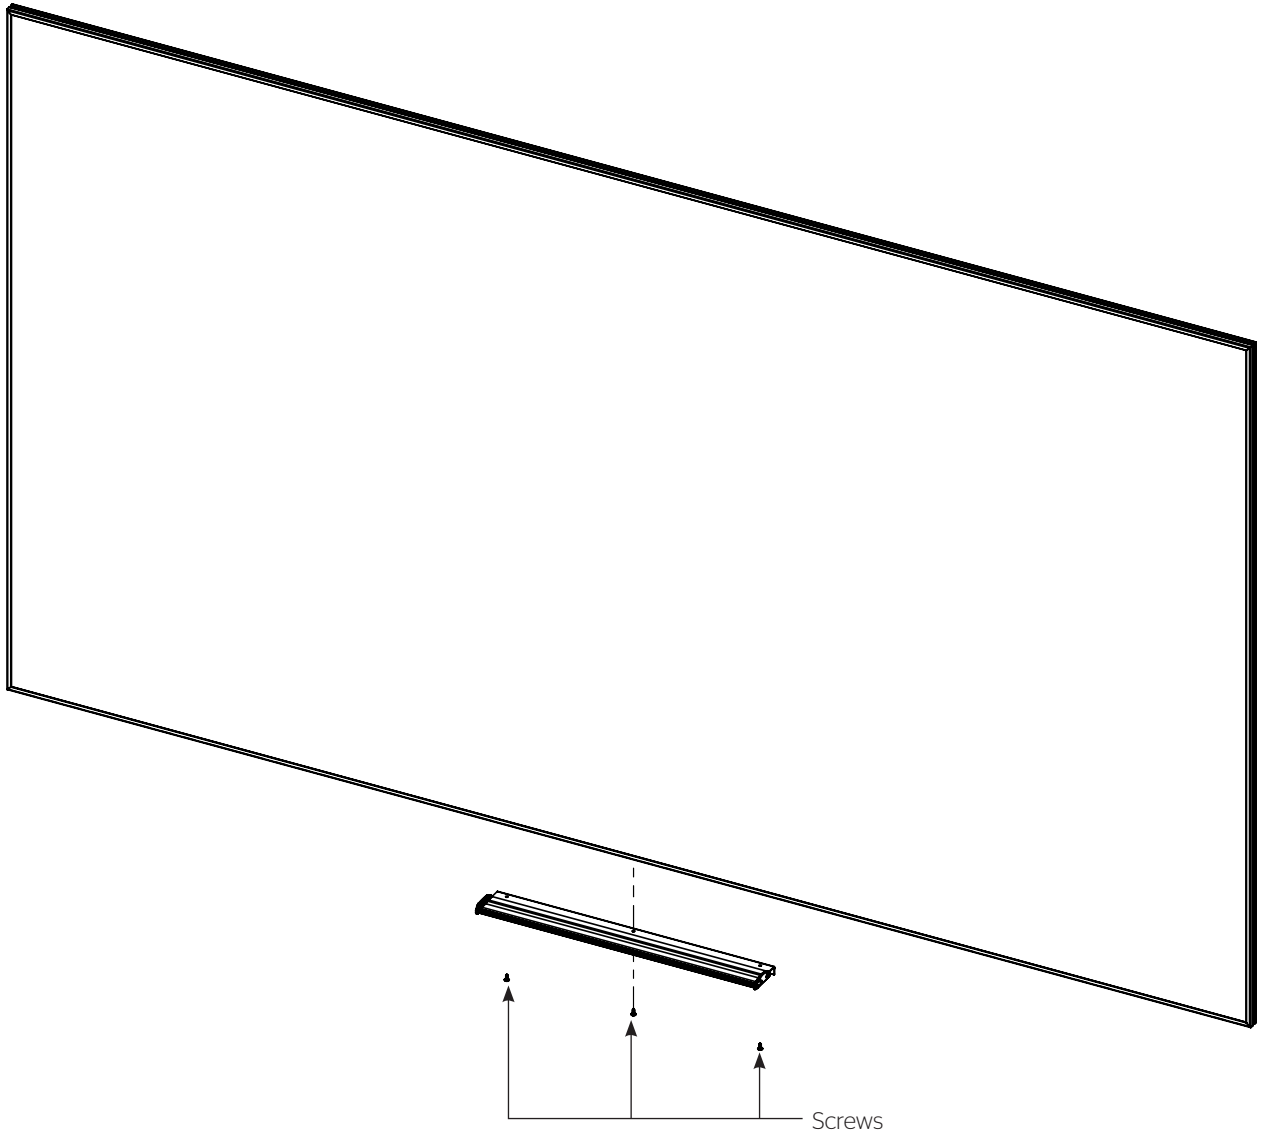

Figure 1
2. Center aluminum tray to the bottom of frame and attach with (3) of the provided screws. Insert screws through the tray into the groove (Figure 1).